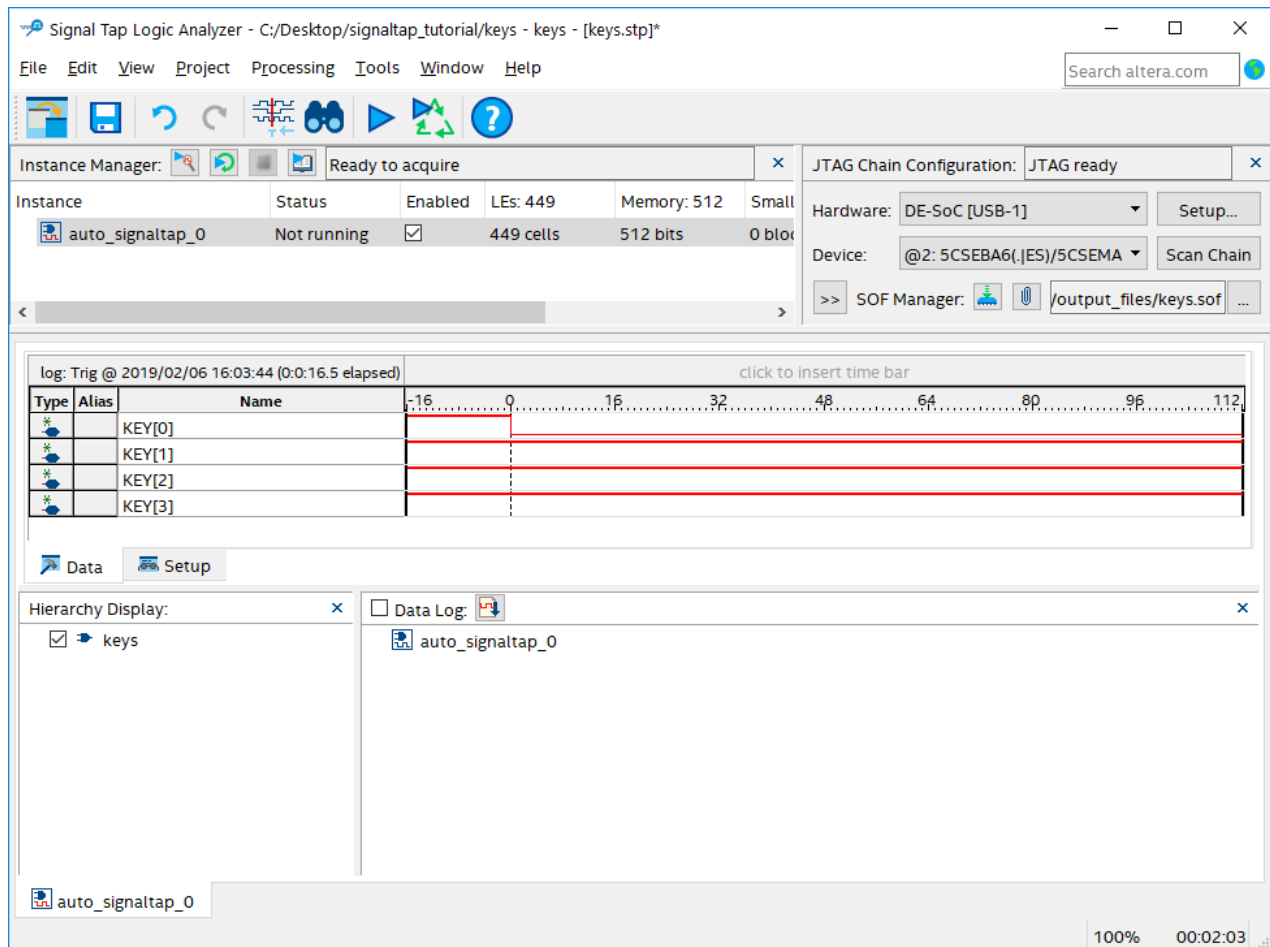

Figure 12. Graphical display of values after trigger condition is met.
- Now, to observe the trigger feature of the Logic Analyzer, click on the Data tab of the SignalTap Window and then press and hold Key 0 on the DE-series board. The data window of the SignalTap window should display the image in Figure 12. Note that this window shows the data levels of the 4 nodes before and after the trigger condition was met. As an exercise, unpress Key 0 then click Run Analysis again. Hold down any of Keys 1-3, then press Key 0. When Key 0 is pressed, you will see that the values of Keys 1-3 displayed on the SignalTap Logic Analyzer match what is being pressed on the board.